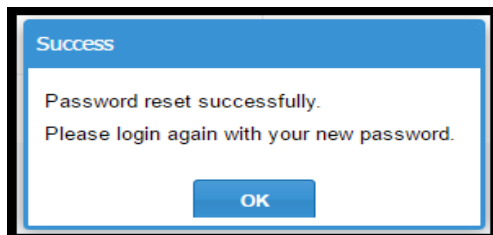

Figure 98 Password reset successfully message
- When you are done entering the required information, click **Submit**. A confirmation message appears, as shown in Figure 98.